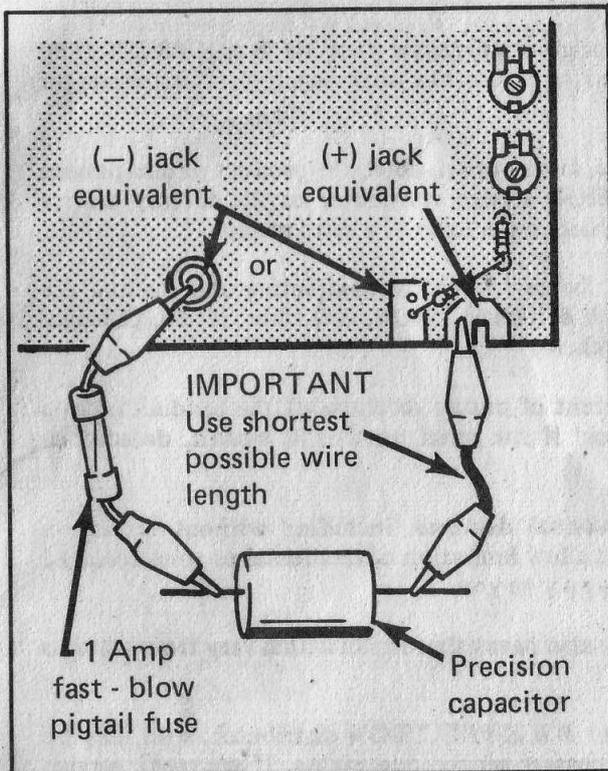

Fig. 6. Connection of precision capacitors during calibration.
Four miniature alligator clips and a 1 amp fast blow pigtail fuse wired per Fig. 6.
6. Connect 1000 pF precision capacitor to (+) and (-) equivalent points on circuit board as shown in Fig. 6.